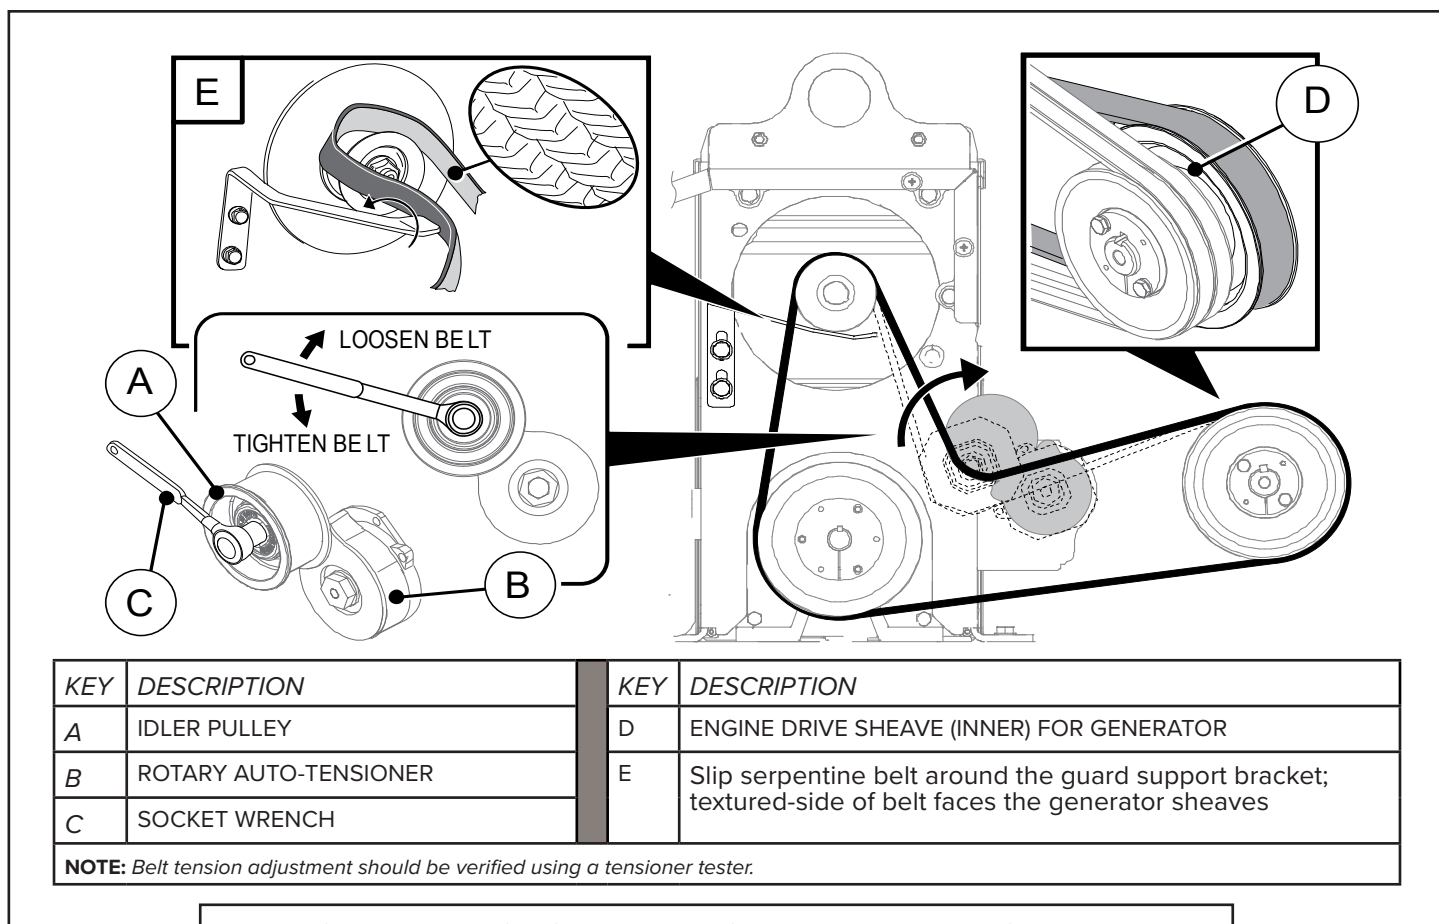

Figure 5-11: Adjusting or Replacing the Generator Drive V-belt
3. Obtain a replacement belt and ensure that the grooved side of the belt runs on the inside to directly contact the drive pulleys, then position and route the new generator serpentine belt as shown in **Figure 5-11**. Note that the auto-tensioner will need to